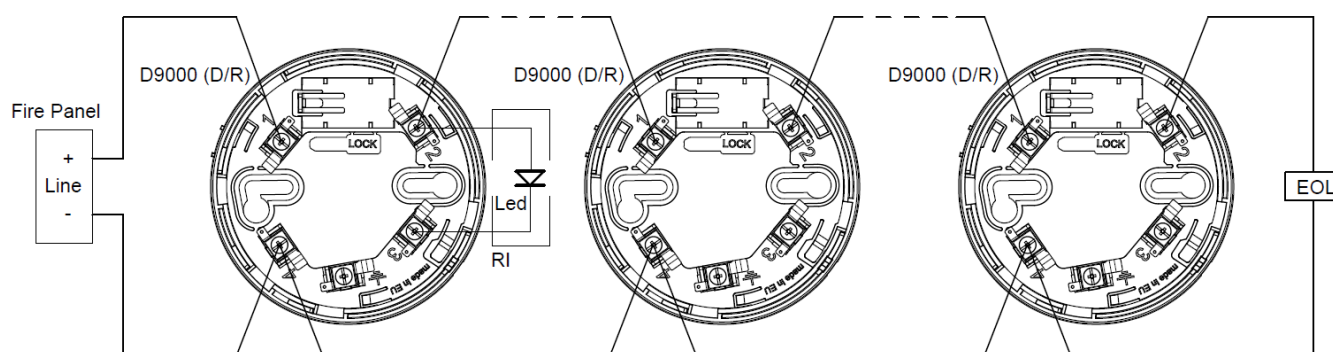

Fig.1
- Connect the electrical cables according to the attached diagram (Figure 1) ;;